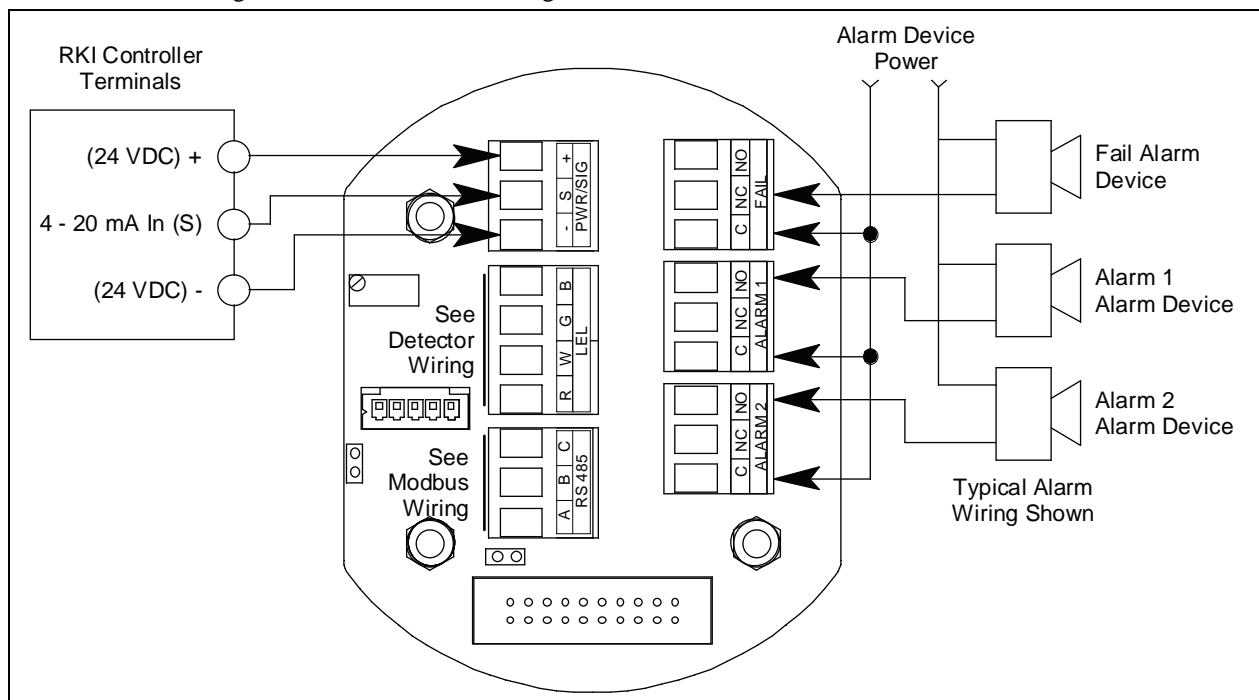

Figure 30: Wiring the M2A to a Controller and Alarm Devices
- If the M2A will be wired into a Modbus network, see "Chapter 8: RS-485 Modbus Output" on page 61. See Figure 30 below for field wiring connections to the M2A.